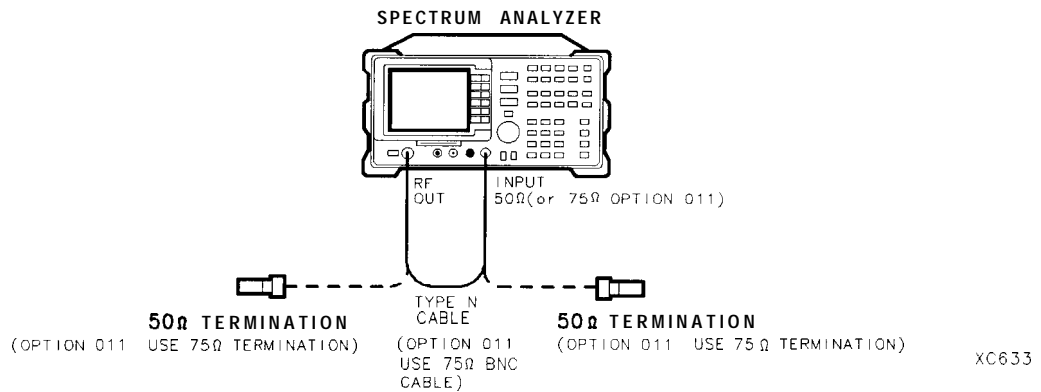

Figure 2-97. Tracking Generator Feedthrough Test Setup
1. Connect the Type N cable between the RF OUT 50  $\Omega$  and INPUT 50  $\Omega$  connectors on the spectrum analyzer. See Figure 2-97.
**SRC PWR ON OFF (ON)** -5 (dBm)